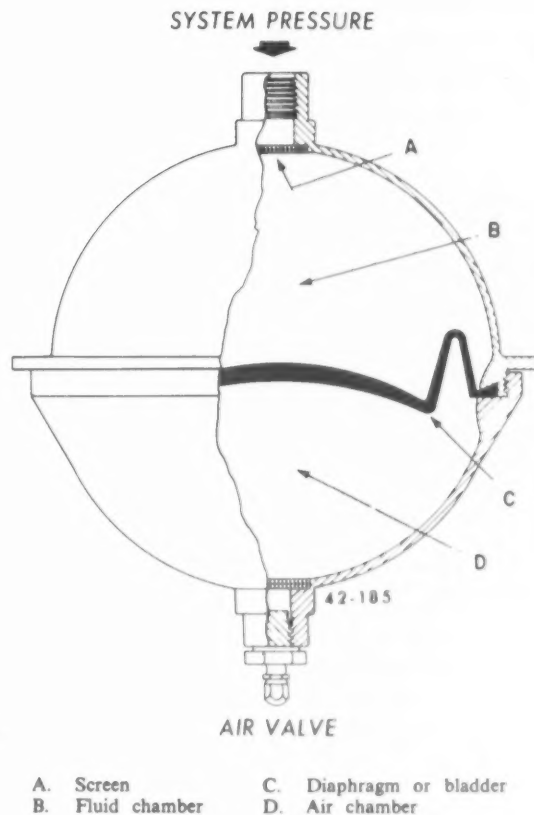

Figure 2-17. Spherical accumulator.
Spherical accumulator. The spherical accumulator (fig. 2-17) is constructed like a globe or ball. Mounted inside the sphere, a rubber diaphragm or bladder (C) is used to separate the fluid chamber (B) from the air chamber (D). A screen (A) located in the pressure port prevents a part of the diaphragm from being pushed out through the port and being damaged. In some units a metal disc is attached to the center of the